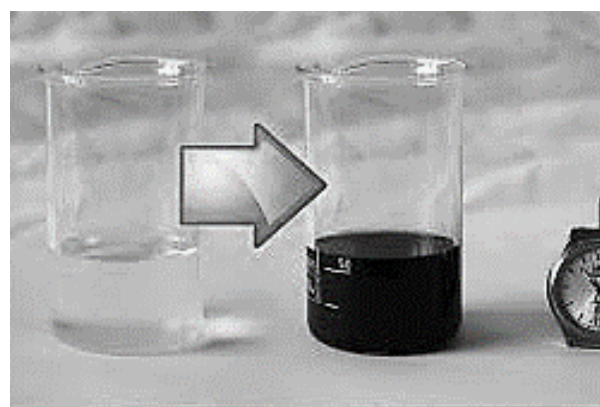

Figure 6.1: Colour change from the iodine clock reaction.
When hydrogen peroxide is added to the mixture, the iodine formed by reaction (1) reacts instantly with thiosulfate by reaction (2), until all the thiosulfate is used up. The excess iodine begins to accumulate in solution and in the presence of starch forms a complex, which turns the colourless solution turns blue (Figure 6.1).